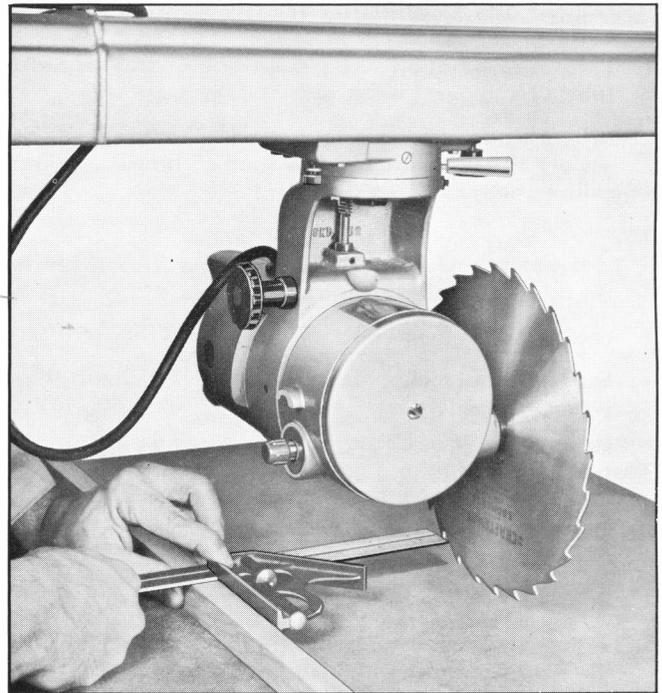

Fig. 24
4. Rotate blade until same tooth is on opposite side and measure the distance from fence to blade tooth. See fig. 24.